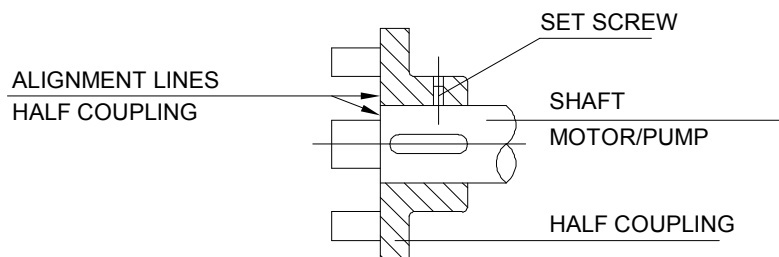

Fig. 13
- 1 - Thoroughly clean motor/pump shaft ends and shaft keys, place the shaft keys in the proper keyway slots and fit the coupling halves in line with the shaft ends. The use of a rubber hammer and even pre-heating of the metal half couplings may be required (see fig. 13). Lightly tighten the set screws. For monoblock versions make sure to tighten the connecting screws between lantern and motor as explained hereinafter.